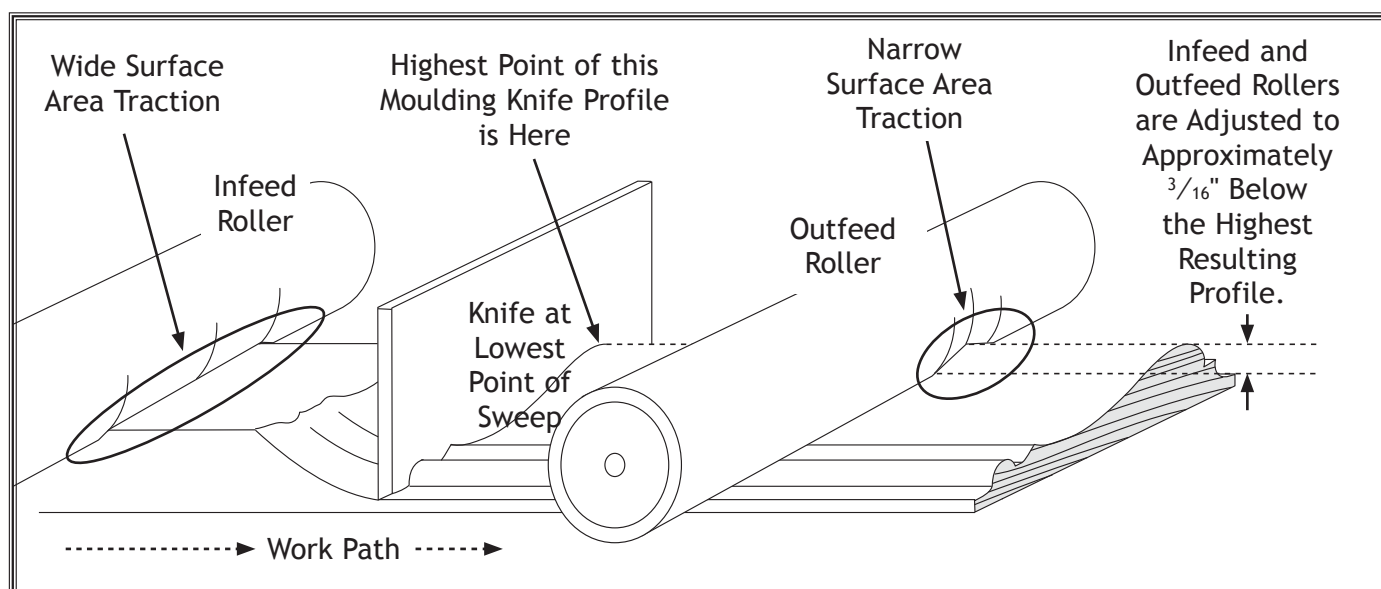

Figure 29. Relationship between feed roller height and moulding knife profile.
- For moulding, lower the roller approximately $\frac{3}{16}$ " below the highest point of the moulding knife profile. Refer to **Figure 29** to find the highest point of the moulding knife profile when the knife is at the lowest point of its sweep.